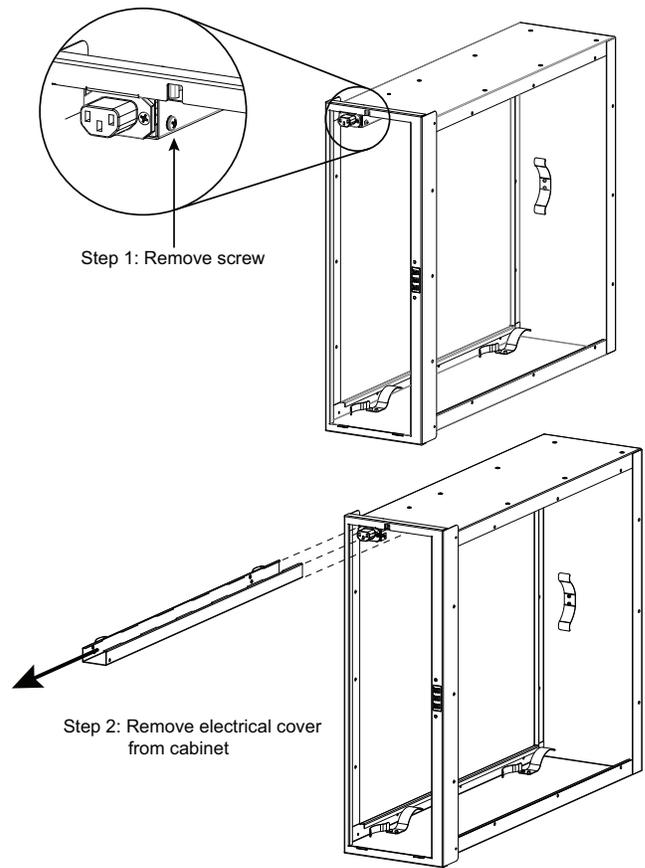

Fig. 9 - Removal of Electrical Tray Cover
7. Mounting holes are provided for ductwork and furnace attachment. To access the mounting holes on the upstream flange of the purifier adjacent to the incoming power wiring, slide off the wiring cover as illustrated in Fig. 9. The wiring cover must be reinstated prior to operating the purifier.